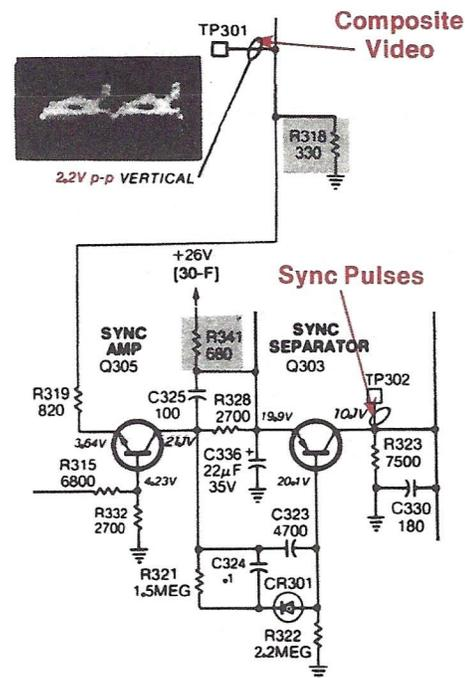

Fig. 1: The schematic often gives a clue as to which signal should be substituted into a circuit.
The VA62 signal you use depends on which stage you are substituting into. When you are substituting into an IF stage, use the VA62 IF signal. When you substitute into an audio stage, use the audio signal. The signal normally present at the input of the video stages and the sync separator (Figure 1) is composite video, so when substituting into these stages, use composite video. In each case, you substitute the type of signal that is normally present at that point in the circuit.
1. If a schematic is available, check it for sample waveforms. Schematic waveforms often give the peak-to-peak amplitudes of the signals (Figure 1). Simply set the VA62 drive signal to the amplitude shown on the schematic (use the VA62 digital meter to monitor the output level) and substitute the signal.